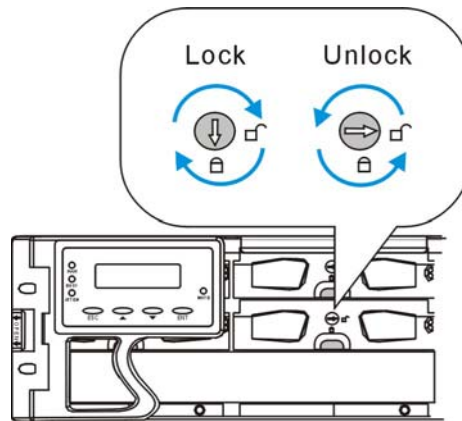

Figure 5-13: Drive Tray Key-Lock Rotation
Step 3. **Remove the drive tray.** To remove the drive tray from the enclosure, the key-lock must be unlocked. (See **Figure 5-13**) To do this, turn the key-lock on the front of the drive tray until the groove on its face is in a horizontal orientation.